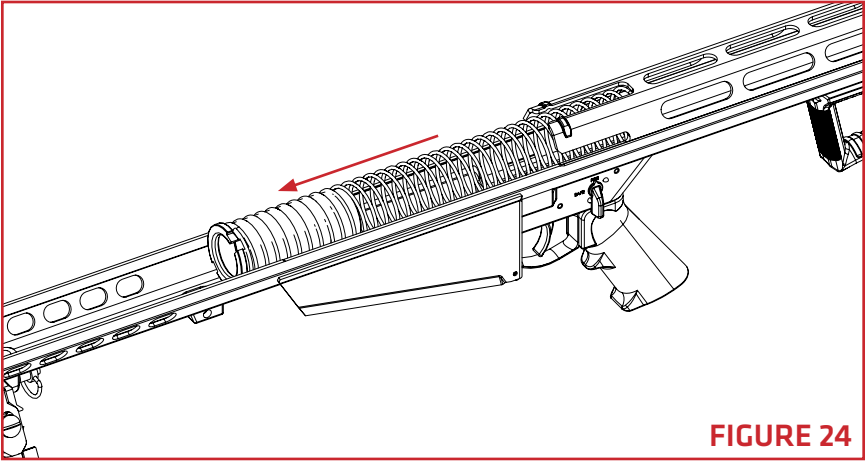

FIGURE 24
3. Allow buffer sleeve and mainspring to fully extend then remove (**FIGURE 24**).